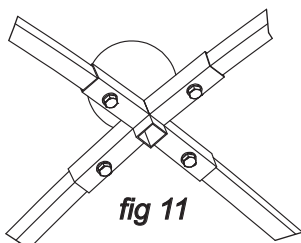

fig 11
21: Take the connection node/finial (ref 17 or 27 depending on choice) and insert the curved roof bar with the hole 3.5cm from the end, and bolt together using an M10 bolt and Washer (ref 21, 22) in place with the aid of a 17mm spanner (fig 11). Assemble as many roof units as required for the constructed framework and place on the outside of the cage. Then place a fitted roof net over each unit.